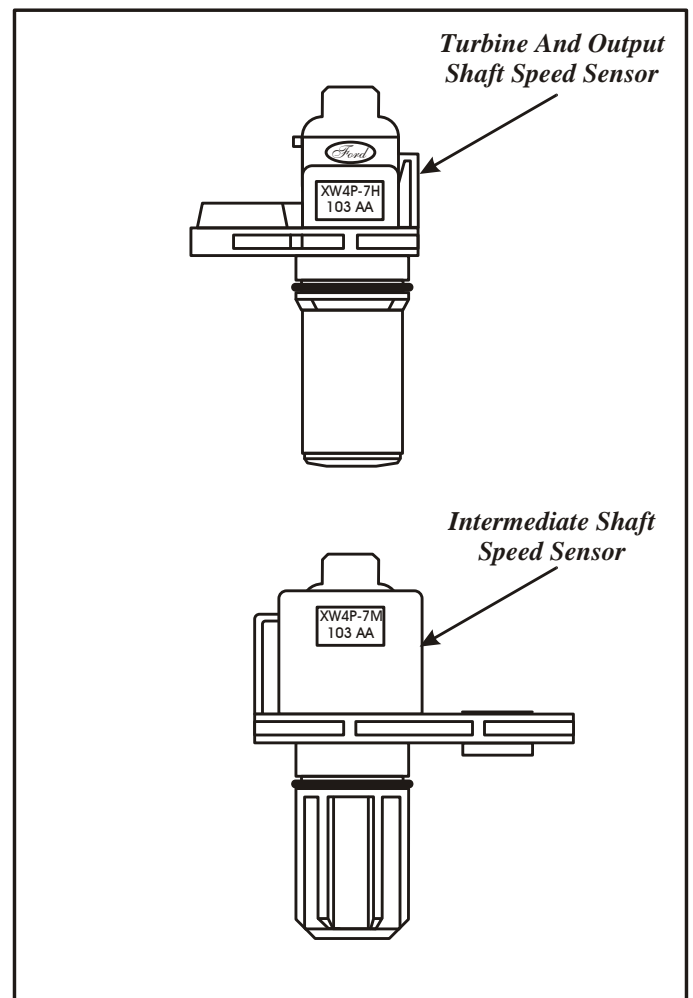

Figure 21
3. The Turbine and Output sensors are exactly the same part number. Refer to Figure 21 for the differences between them, and the Intermediate shaft speed sensor.